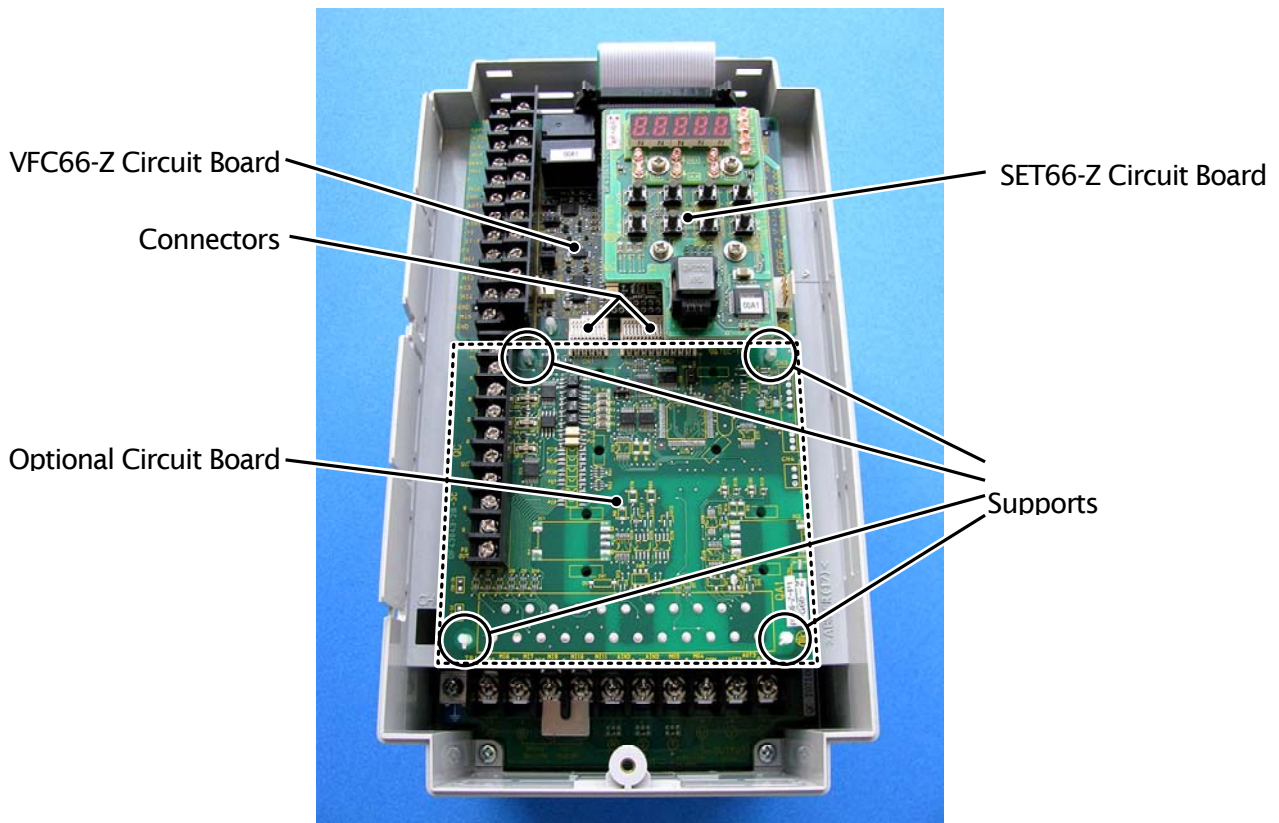

Figure 3.2 CC66-Z Installation Position (VF66B-2R222)
- (1) Confirm that the power is off before performing any work.
- (2) Install the CC66-Z board in the location designated by the dotted lines shown in Figure 3.2. (The figure shows the VF66B-2R222 model, however, the installation location is the same for other models.) If another optional circuit board is already installed, remove it by following the procedure described below. If another optional circuit board is not already installed, skip to (6).
- (3) In order to safely remove the optional circuit board, first remove the SET66-Z board. Remove the 4 screws indicated by the circles in the figure on the right. Pull the SET66-Z board away from the VFC66-Z board in order to detach it.
- (5) 4 board supports are included to mount the optional circuit board to the inverter housing, as indicated by the circles in Figure 3.2. Press down on the board support locking hooks as shown in Figure 3.5 to remove the optional circuit board.
- (6) Align the four holes of the CC66-Z board with the 4 board supports indicated by the circles in Figure 3.2. Push down on the board until the support locking hooks snap into place as shown in Figure 3.5.